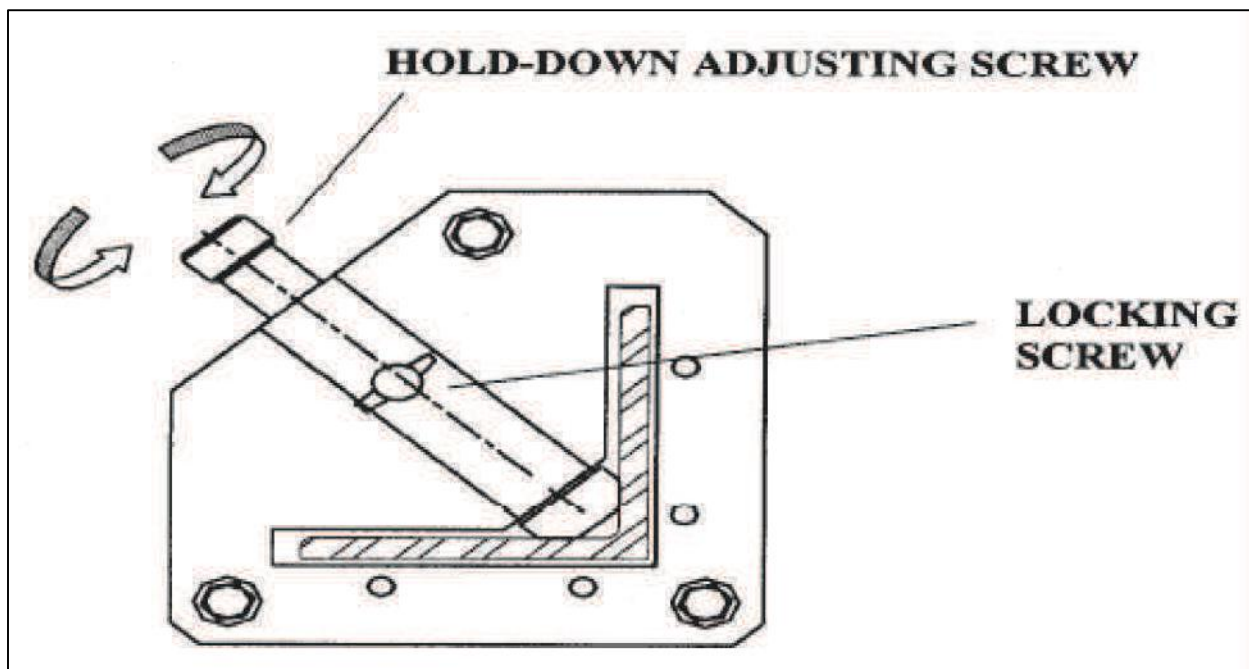

FIGURE 18
- ▶ To set the hold-down, feed the angle to be cropped through the hold-down and angle shear, as shown in Figure 18. Feed the angle horizontally and square to the machine.